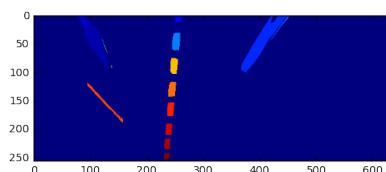
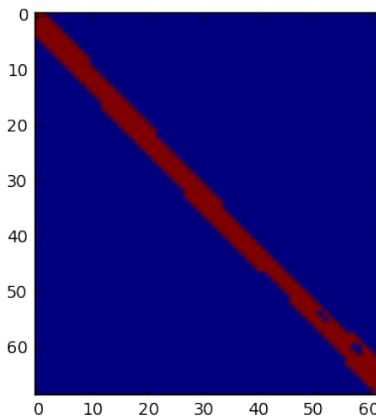
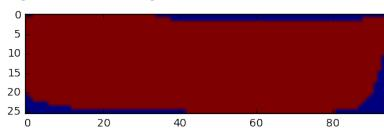

Figure 13.8. Segmented image
Figure 13.10. Segmented cone
Figure 13.11. Segmented stop line
4. Now there is the task of segmenting/isolating the objects which remained after the color filtering process. At the beginning of the project we therefore implemented our own segmentation algorithm which was however more inefficient and led to an overall computational load of 200% CPU usage and a maximum frequency of our whole module of about 0.5 Hz only. By using the scikit-image module which provides a very efficient label function, the computational efficiency could be shrunk considerably to about 70% CPU usage and allows the whole module to run at up to 3 Hz. It is important to remember that in our implementation the segmentation process is the one which consumes the most power. The output after the segmentation is the one in Figure 13.8, where the different colors represent the different segmented objects.
That is why it is best to use a rotation invariant feature to classify the segmented object. In our final implementation we came up with using the two eigenvalues of the inertia tensor, which are obviously rotation invariant (when being ordered by their size). Being more specific about the detection of cones, when extracting the cone from Figure 13.8 it is looking like in Figure 13.10, while an erroneous detection of a stop line is looking like in Figure 13.11.